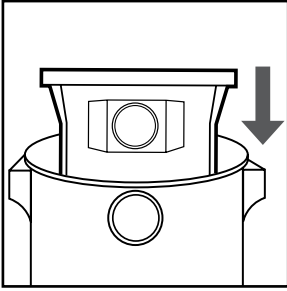

FIGURE 20
28. Slide the inlet deflector with the filter bag attached into the deflector guide. **(FIGURE 20)**